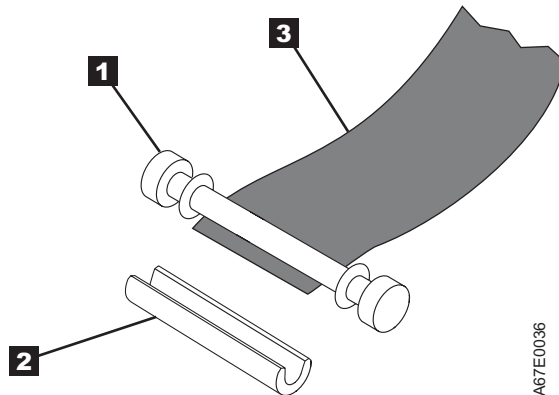

Figure 9-14. Removing the C-clip from the leader pin. Use your fingers to push the C-clip from the leader pin.
5. On the leader pin (**1** in Figure 9-14), locate the open side of the C-clip **2** . The C-clip is a small black part that secures the tape **3** to the pin.